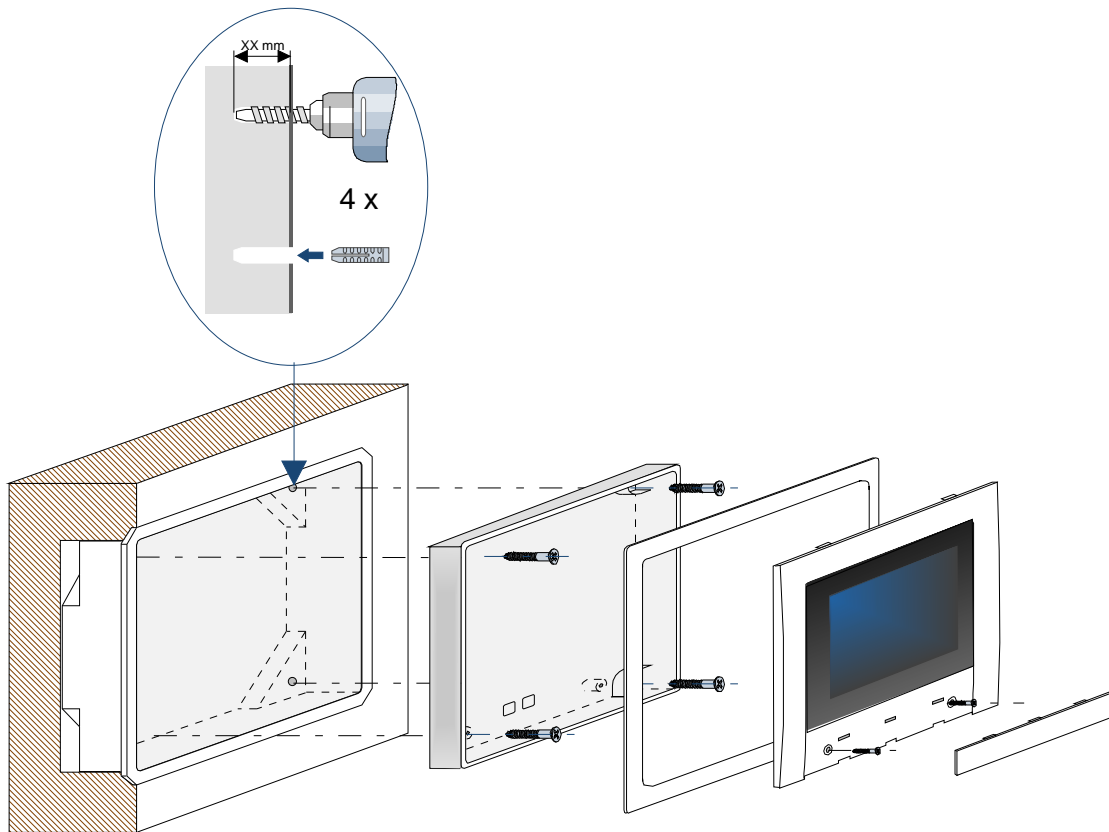

Fig. 6: Touch screen operating panel flush-mounted
- Close the housing as shown in Fig. 6.